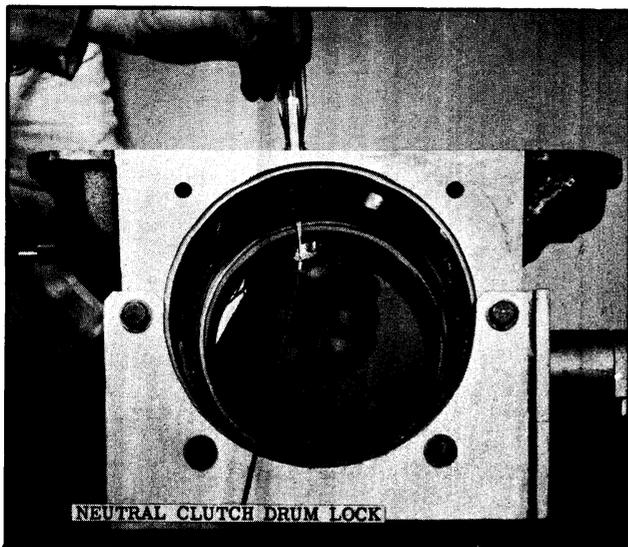

Fig. 3-45 Removing Lock From Case
5. Remove the neutral clutch drum lock from the case. (See Fig. 3-45)